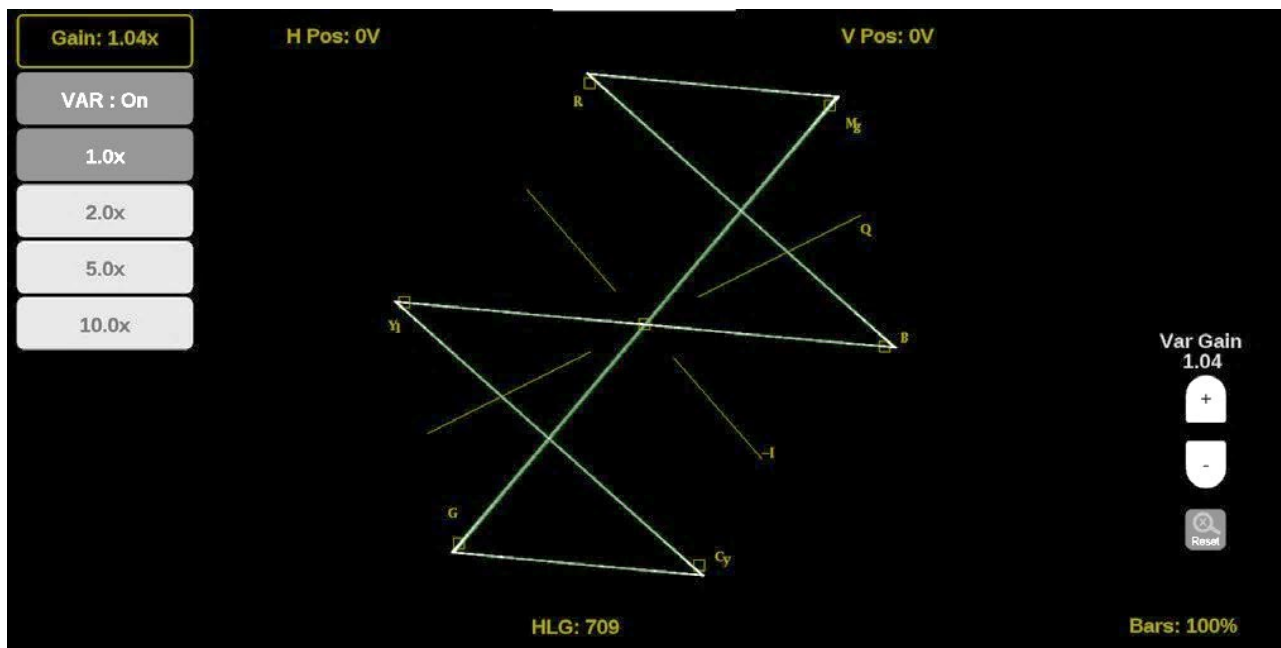

Figure 112: Vector on-screen tools – Gain
1. Select the **Gain** button to expand the available magnification options drop down list. (See Figure 112.)